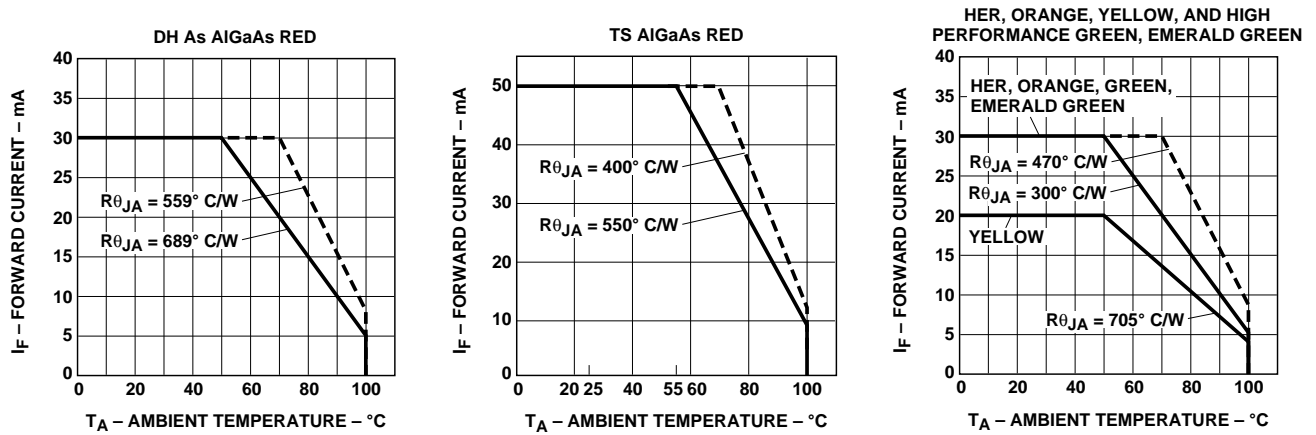

Figure 5. Maximum Forward dc Current vs. Ambient Temperature. Derating Based on $T_{jMAX} = 110^\circ \text{C}$
1. See Figure 5 for maximum current derating vs. ambient temperature.